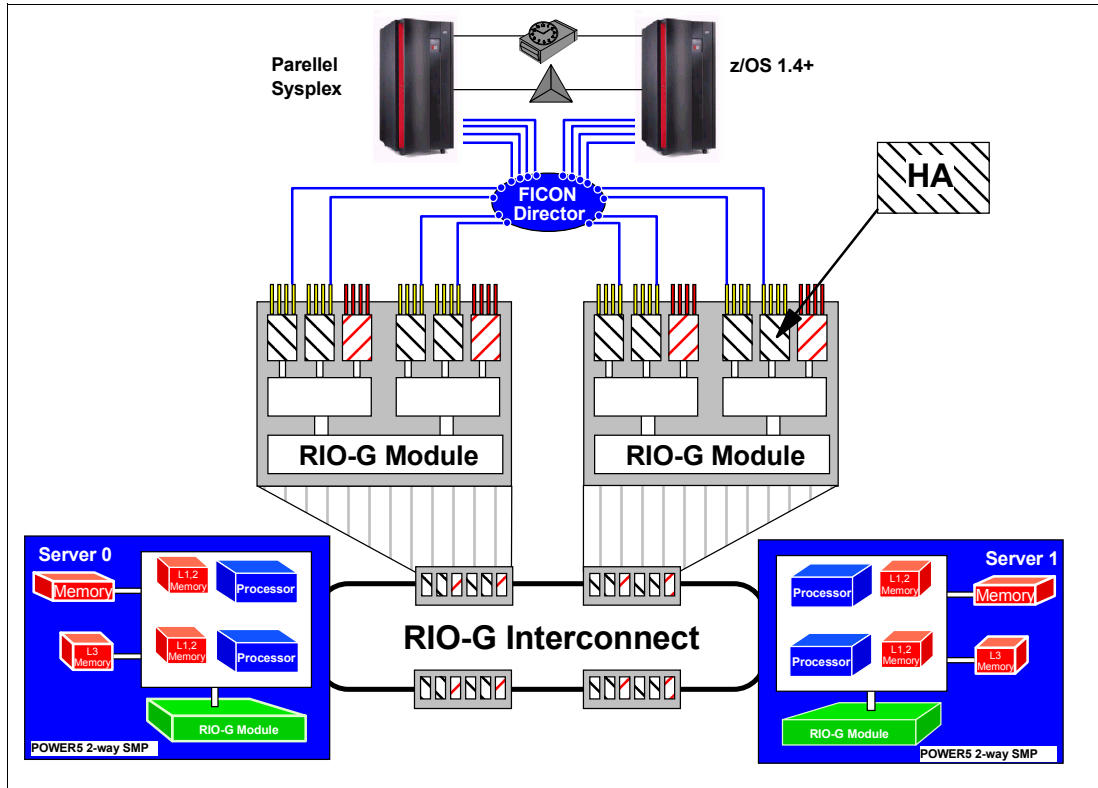

Figure 12-12 DS8100 frontend connectivity example - partial view
Figure 12-12 on page 270 displays a configuration fragment on how to connect a DS8000 to FICON hosts.
Each I/O enclosure can hold up to four HAs. The example in Figure 12-12 shows only eight FICON channels connected to the first two I/O enclosures. Not shown is a second FICON director, which connects in the same fashion to the remaining two I/O enclosures to provide a total of 16 FICON channels in this particular example. The DS8100 disk storage server provides up to 64 FICON channel ports. Again note the very efficient FICON implementation in DS8000 FICON ports.
The example in Figure 12-12 with 16 FICON Express channels has roughly the potential to provide a bandwidth of 16×175 MB/sec, equal to about 2.8 GB/sec. This is a very conservative number. Some measurements show up to 206 MB/sec per 2 Gbps FICON Express channel and 3.3 GB/sec aggregated for this particular example with 16 FICON Express channels.
I/O rates with 4 KB blocks are in the range of 6,800 I/Os per second or more per FICON Express channel, again a conservative number. A single FICON Express channel can actually perform up to about 9,000 read hit I/Os per second on the DS8000. This particular example in Figure 12-12, with 16 FICON Express channels, has the potential of over 100,000 I/Os per second. These numbers are rough considerations and rely on 100% read hit rates for
Figure 12-12 on page 270 displays some aspects regarding the disk subsystem within a DS8100:
- ▶ In the example in Figure 12-12 on page 270, each rank is in its own extent pool. The evenly numbered extent pools have an affinity to the left server, server 0. The odd number extent pools have an affinity to the right server, server 1. When a rank is subdivided into extents it gets assigned to its own extent pool.
Figure 12-12 also indicates that there is no affinity nor a certain preference between HA and processor complexes or servers in the DS8000. In this example either one of the two HAs can address any volume in any of the ranks, which range here from rank number 1 to 12. Note there is an affinity of DAs to the processor complex. As Figure 12-3 on page 259 depicts, a DA pair connects to two switches respectively to two pairs of switches. The first DA of this DA pair connects to the left processor complex or server 0. The second DA of this DA pair connects to the other processor complex or server 1.